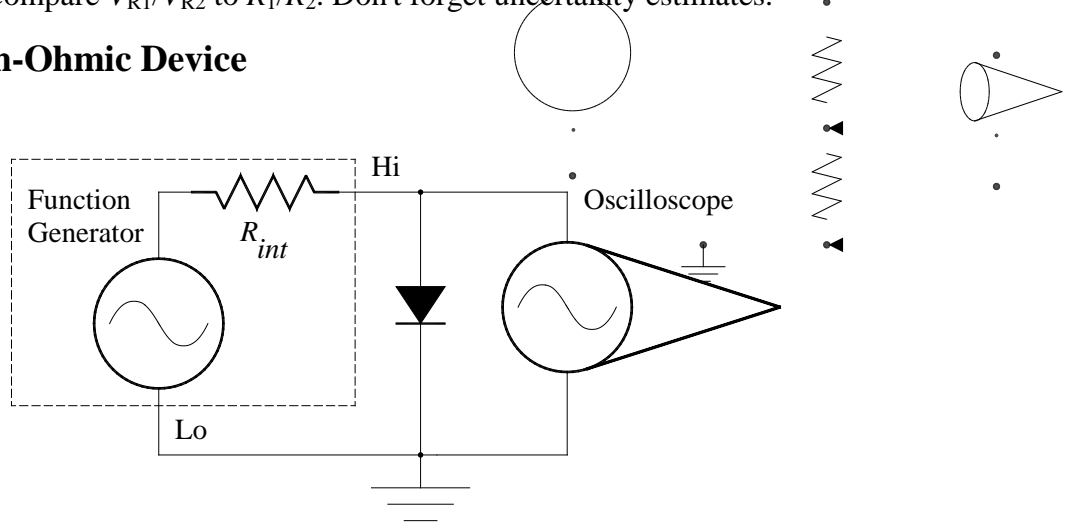

Figure 11 Diagram of a Diode connected to the function generator and oscilloscope.
17) Connect the diode to the function generator and oscilloscope as shown in Figure 11. Sketch the waveform and again record the VOLTS/DIV and SEC./DIV.
QUESTION 10 - Think of the diode as a variable resistor. As the diode is drawn in Figure 11: